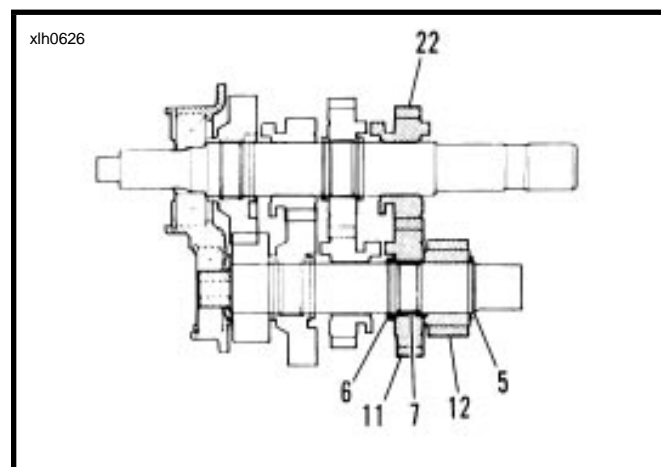

Figure 6-22.
See Figure 6-22. Using RETAINING RING PLIERS \(Part No. J-5586\) remove and discard retaining ring (5) next to countershaft 5th gear (12). Slide countershaft 5th (12), mainshaft 2nd (22) and countershaft 2nd (11) off end of shafts. Remove split bearing (7) that was under gear (11) and thrust washer (6) on the countershaft.